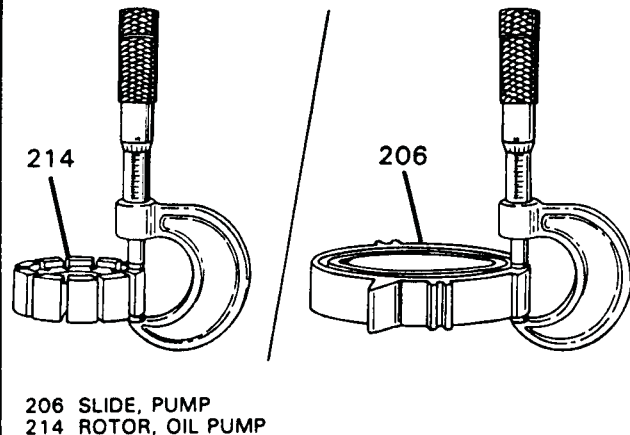

Figure 168
1. A one inch micrometer, capable of measuring in tenths, will be required to accurately measure the pump slide and the rotor, as shown in Figure 168.
2. Refer to the chart in Figure 168 for proper rotor and slide selection.
6. Proper selection of rotor and slide sizes are very important. Refer to the chart in Figure 168 for proper rotor and slide selection.